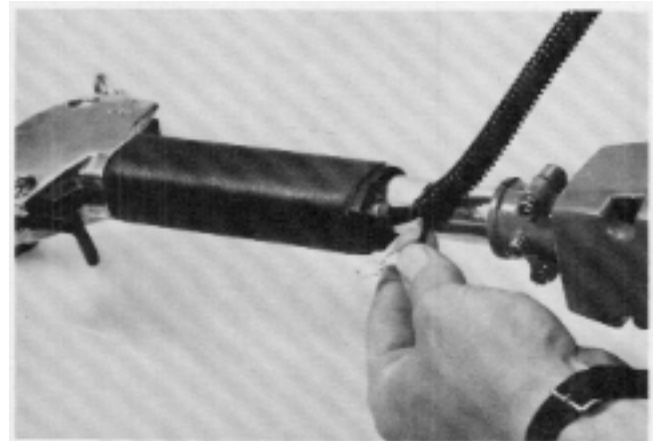

Figure 94
2. Pull the ignition switch wires from the rear of the throttle control grip. A needle nose plier may help. See Figure 94.